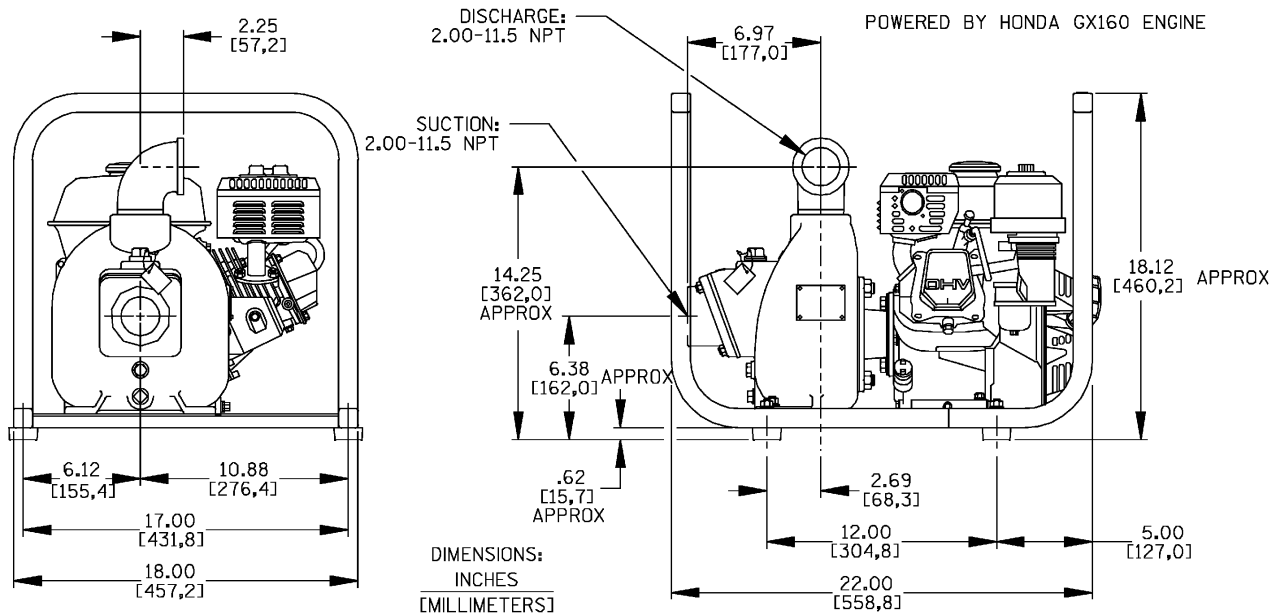

Figure 1. Pump Models 82D52-GX160
See Figure 1 for the approximate physical dimensions of this pump.
- e. The rubber foot mounting kit (see the Parts List, Section E, Page E-3) was shipped loose with the pump. Refer to Figure 1, Page E-2 and install the parts as shown.